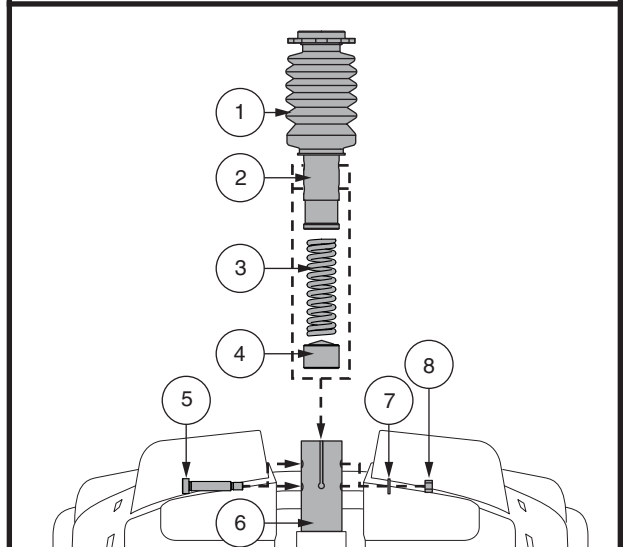

Figure 20. Seat Height Adjustment - Comfort Seat Post
4. Push down on the seat post while loosening and removing the shoulder bolt, washer, and nut. **See figure 20.**
6. Install the desired spring. **See figure 20.**